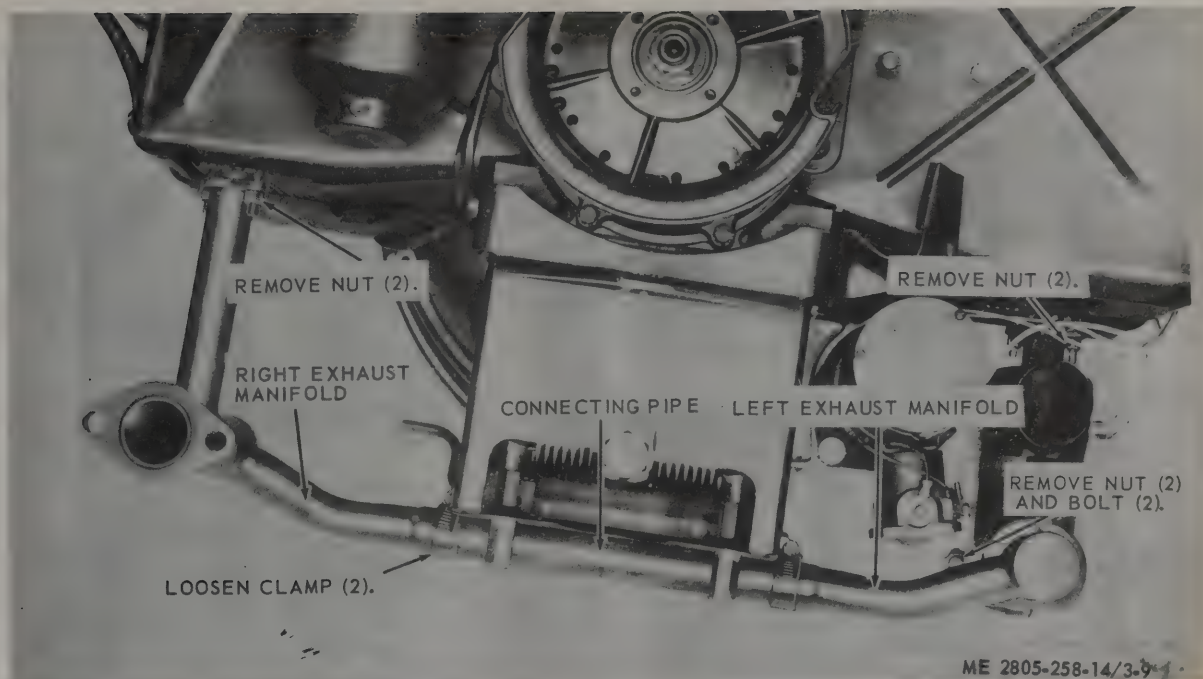

Figure 3-9. Exhaust manifolds and connecting pipe, removal and installation.
- (1) Remove preheater (para 3-49).
- (2) Refer to figure 3-9 and remove exhaust manifolds and connecting pipe.
- (1) Refer to figure 3-9 and install exhaust manifolds and connecting pipe.
- (2) Install preheater (para 3-49).